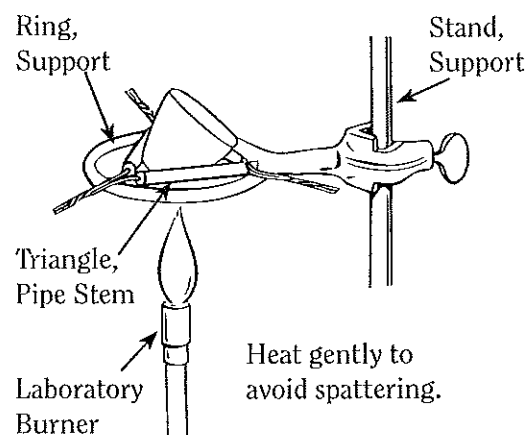

Figure 2.
6. Place the crucible on the clay triangle as shown in Figure 2. Light the Bunsen burner again and slowly heat the crucible by brushing the bottom of the crucible with the Bunsen burner flame for 2–3 minutes. Set the crucible to cool on a heat-resistant pad.